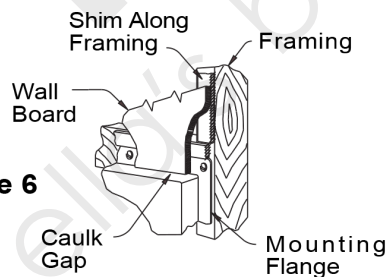

Figure 6
8. Finish wall board as detailed in Figure 6.